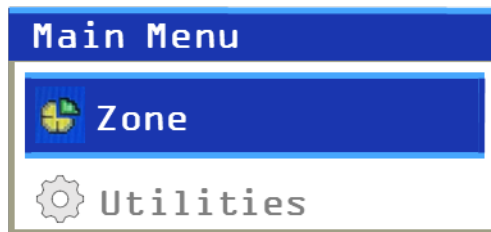

Figure 5. Options Menu – Zone
2. Use the **Scroll Up** and **Down** keys to highlight the **Zone** menu. Then, press the **Menu / OK** button to select and view the list of available zones. Refer to Figure 5.